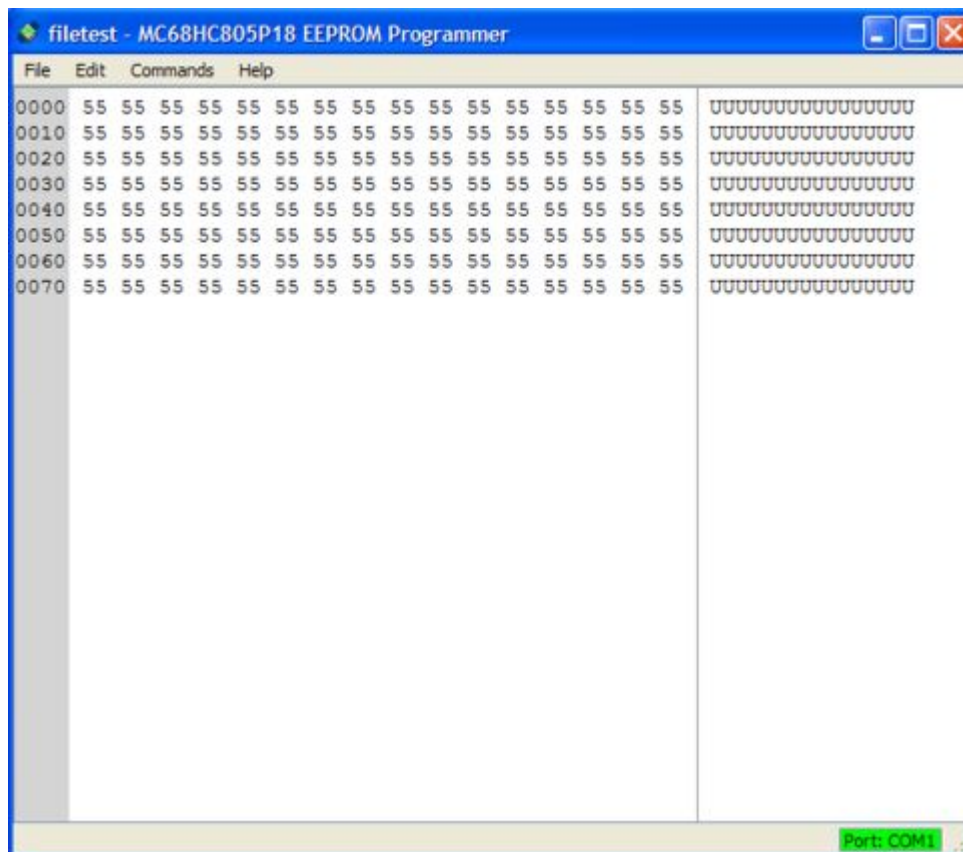

Figure 10
- ▶ Example data is shown on Figure 10